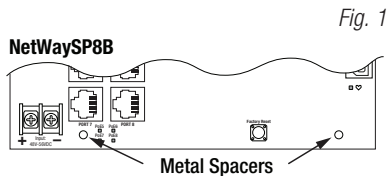

Fig. 1
1. Mount board/backplane in the desired location/enclosure with hardware supplied (*Fig. 1, pg. 4*).